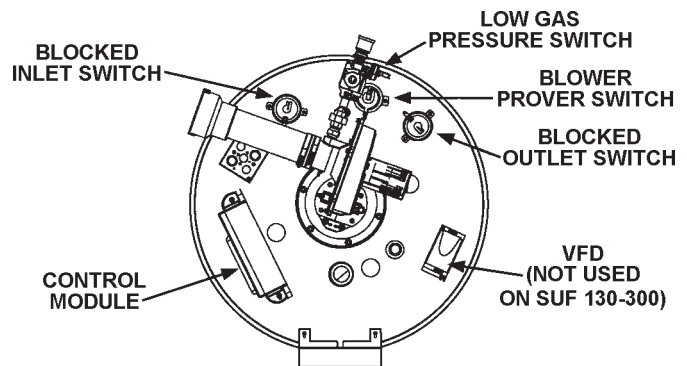

FIGURE 13.
contacts are normally open. When the fan increases the pressure in the burner, the pressure switch will allow the electrical contacts to close. The pressure switch is connected to the burner tap by a piece of tygon tubing. This tubing must be connected in order for the switch to change the electrical contacts. The controller requires that the electrical contacts on this air flow switch be open before it will allow the blower to come on. See Figure 13.
The Blocked Outlet Prover Switch is set up to shut the unit off when a build-up of positive pressure in the exhaust vent pipe occurs. This switch is a positive pressure switch that requires an increase in pressure to change the electrical contacts from normally closed to open. When this switch prevents the unit from igniting, most likely the exhaust is blocked by some means. Check to see if the condensate is allowed to flow freely from the exhaust elbow and for obstructions in the exhaust venting and exhaust vent terminal. See Figure 13.
The Blocked Inlet Prover Switch is set up to shut the unit off when a build-up of negative pressure in the intake vent pipe occurs. This switch is a negative pressure switch that requires an increase in negative pressure to change the electrical contacts from normally closed to open. The switch is connected to the pressure tap on the flange connected to the inlet of the blower. When this switch prevents the unit from igniting, most likely the intake is blocked by some means. Check to see if there is no more than seventy (70) equivalent feet (24.8m) of four inch PVC vent pipe on the intake. Also verify that the intake and intake vent terminal is free of obstructions that may prevent air from entering the unit. See Figure 13.
The Low Gas Switch (LGS) is a single-pole, normally open pressure switch that will close its contacts when a rising pressure of 4.6 in. W.C. (1.25 Kpa) is encountered. The contacts will open when the pressure falls below the fixed set point of 4.6 in. W.C. (1.25 Kpa). The LGS monitors the gas supply pressure to the heater. If the gas supply falls below 4.6 in. W.C. (1.25 Kpa), the main burner is extinguished (if heater is running) or the heater will not start up. **NOTE: LOW GAS SWITCH IS LOCATED ON INLET SIDE OF GAS VALVE.** See Figure 13.